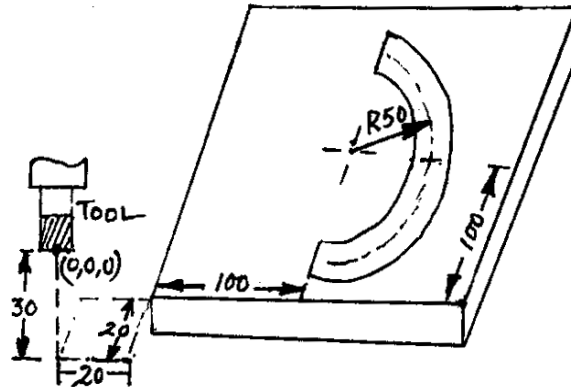

Fig.5
5. Write a manual part program to machine a semicircular slot as shown in fig.5 with a CNC milling machine using a end-mill cutter. Depth of slot is 2 mm. 10